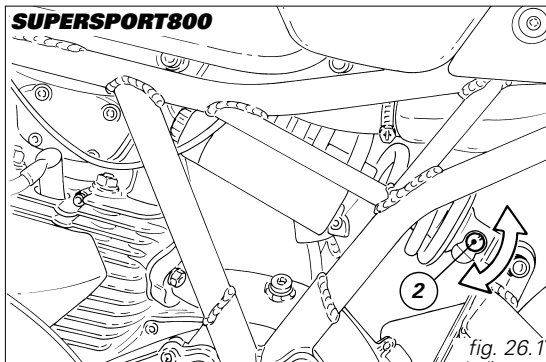

fig. 26.1
The adjuster (2, fig. 26.1 - 26.2) on the left of the connection holding the shock absorber to the swingarm controls rebound damping.
- Rebound damping adjuster (2, fig. 26.1): 6 clicks.